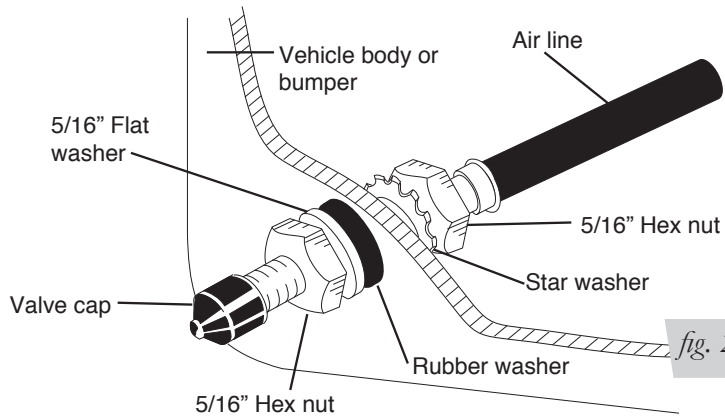

fig. 21
4. Place a 5/16" nut and star washer on the air valve. Leave enough of the inflation valve in front of the nut to extend through the hole and have room for the rubber washer, flat washer, and 5/16" nut and cap. There should be enough valve exposed after installation—approximately 1/2"— to easily apply a pressure gauge or an air chuck (Fig. 21).